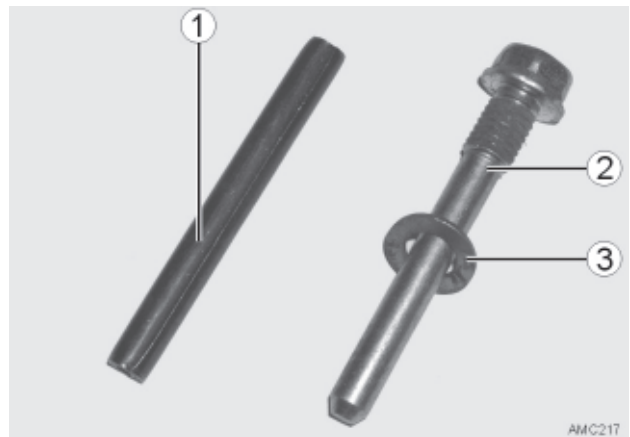

Fig. 18
17. Check if the dowel pin or the hexagon bolt (Fig 18) fits through the drill hole in the axle tube and through the slot in the torsion bar.